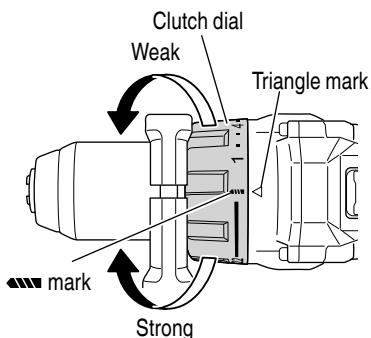

Fig. 15
&lt;DS18DC&gt; (Fig. 15)
- (2) Tightening torque indication (See Fig. 15, 17)
- (3) Adjusting the tightening torque (See Fig. 15, 17)